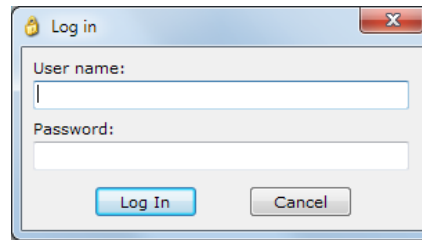

Figure 50-1. Login Screen
1. Use the Settings Explorer in BESTCOMSP $Plus$  to select Username Setup under General Settings, Device Security Setup. The Login dialog box appears. See Figure 50-1. An administrator access level is required to set up usernames and passwords.
2. The Login dialog box pops up. See Figure 50-1. An administrator access level is required to set up port access. Enter the username and password of the administrator and then click the Log In button. The default administrator username is “A” and the default Password is “A”.